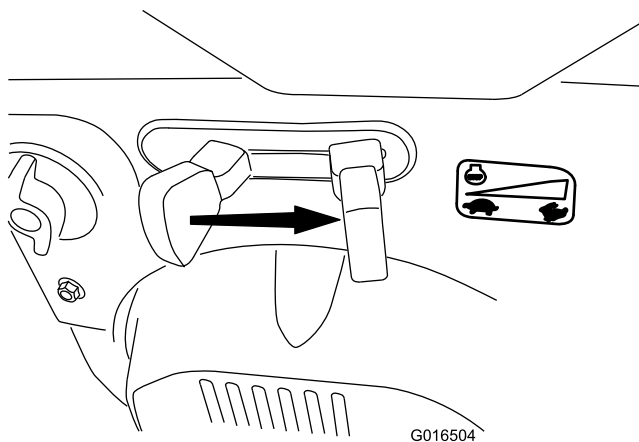

Figure 20
6. Move the throttle to the FAST position (Figure 20).